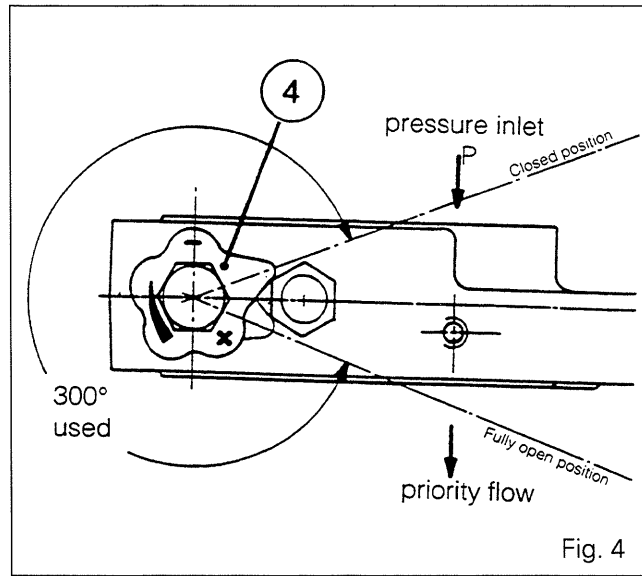

Fig. 4
For work requiring a regulated flow, the divider enables a variable flow to be obtained, by adjusting the knob (4) between the minimum and maximum positions (Fig. 4).
1. Remove the stop screw (6), the lock nut (1) and the washer (2).
2. Unscrew and remove the knob (4).
3. Without forcing it, tighten the screw (3) so that the valve (8) is in contact with its seat.
4. Screw in the knob so that it is in contact with the cap (5).
6. Screw in and tighten the stop screw (6) to a torque of 20 Nm.
7. Place the knob in the closed position (Fig. 4).
8. Fit the washer (2) and tighten the locknut (1) to a torque of 30-40 Nm.